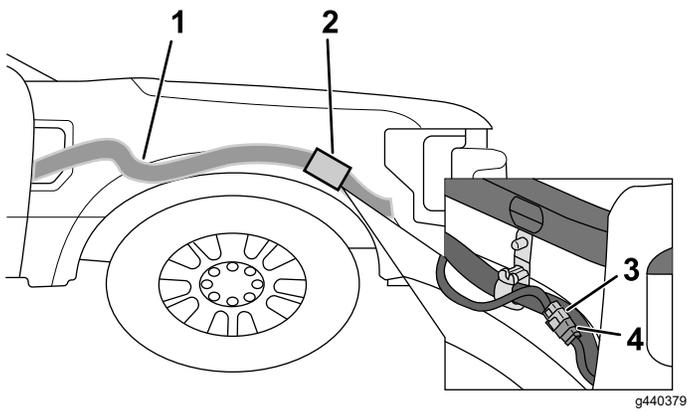

Figure 1
2. Connect the vehicle snowplow connector to the wire harness (Figure 1).